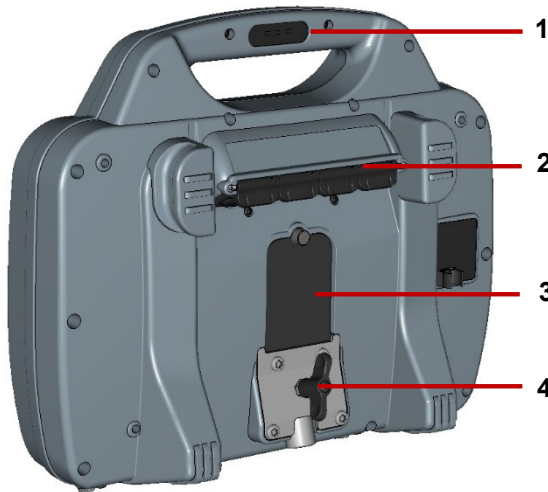

Fig. 3-2: Controller, rear view
- Keep the power socket clean and dry at all times. Keep the main connection panel closed when the controller is not in use. See Fig. 3-2.